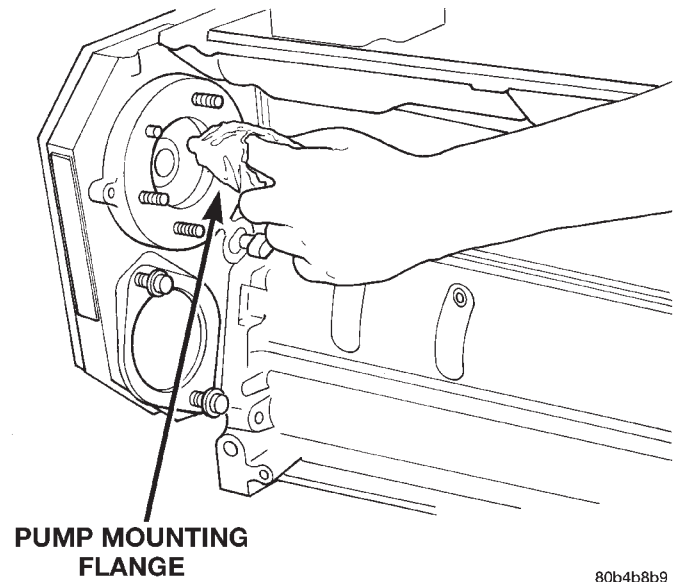

Fig. 71 Cleaning Pump Mounting Flange
(1) Inspect pump mounting surfaces at pump and mounting flange for nicks, cuts or damage. Inspect o-ring surfaces for nicks, cuts or damage.
(2) Clean injection pump mounting flange (Fig. 71) at gear housing. Also clean front of injection pump.